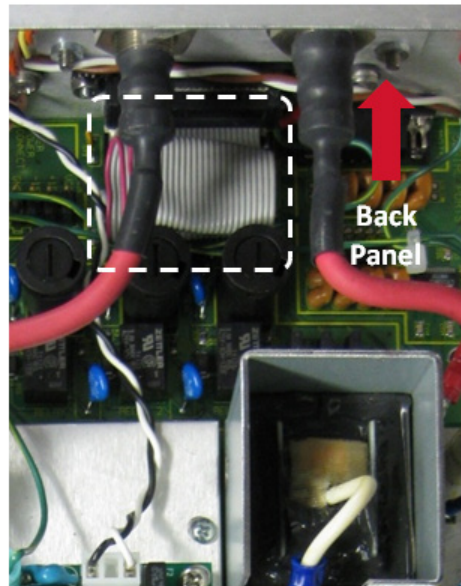

Figure 6. Ribbon cable above pin headers
15. Locate and remove the ribbon cable in **Figure 6** to access the JP8 and JP13 pin headers in **Figure 7**. As shown in **Figure 6**, the ribbon cable is the electrical component inside the dashed box.